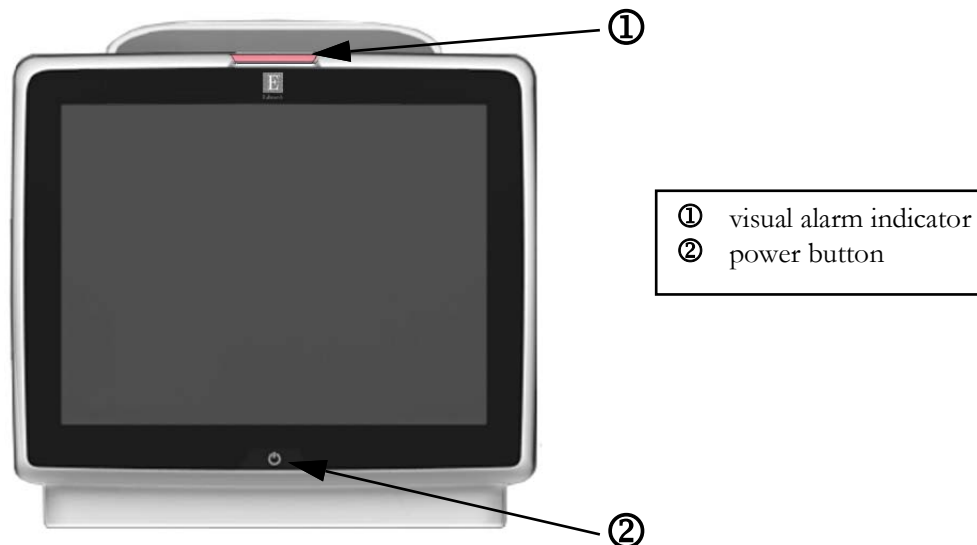

Figure 3-1 HemoSphere advanced monitor front view
To power the monitor off, touch the power button. See ② in Figure 3-1 on page 68. The following options will be displayed: